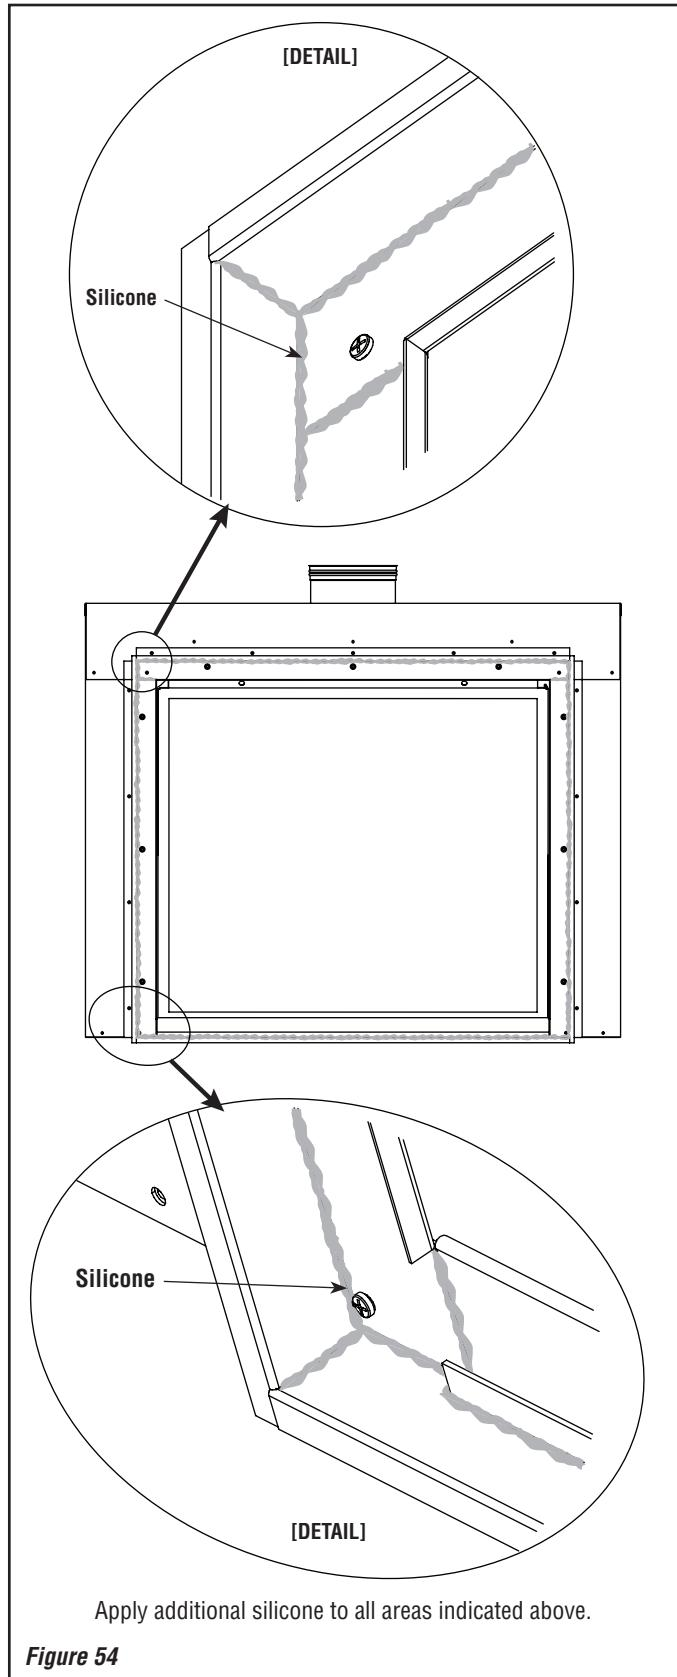

Figure 54
6. Apply silicone to all areas indicated in **Figure 54**.